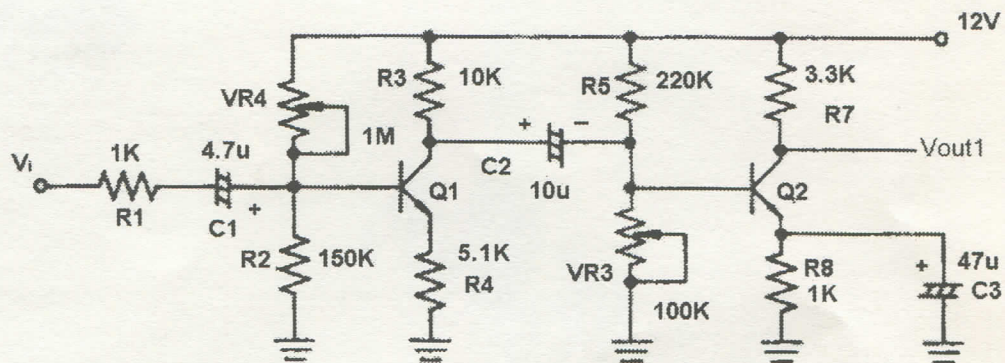

Fig 9-1 (a) RC coupling amplification
- (1) Firstly fix the module KL-23005 in the KL-200 Linear Circuit Lab, then locate the block marked 23005-block a.
- (2) Insert the short-circuit clip by referring to Fig 9-1 (a) and the short-circuit clip arrangement diagram 23005-block a.
- (3) Adjust VR4 and VR3 respectively so that both Vc1 Q1 collector and Vc2 Q2 collector will be $1/2 V_{cc}$.
- (4) Connect signal generator and oscilloscope in the input terminal (IN) and connect oscilloscope to the output terminal.
- (5) Adjust the signal generator to 1KHz sine wave and gradually increase the output voltage of signal generator so that the output terminal (OUT1) can display maximum non-distorted waveform.
- (6) Use the oscilloscope to measure the waveforms of Vb1, Vc1, Vb2 and Vout1, and make records.
- (7) Disconnect C3 ($47 \mu F$), then repeat Step (5) and (6).
- (8) Randomly adjust VR4 ($VR 1M\Omega$), then view if the waveforms of Vb1, Vc1, Vb2 and Vout1 will be varied.